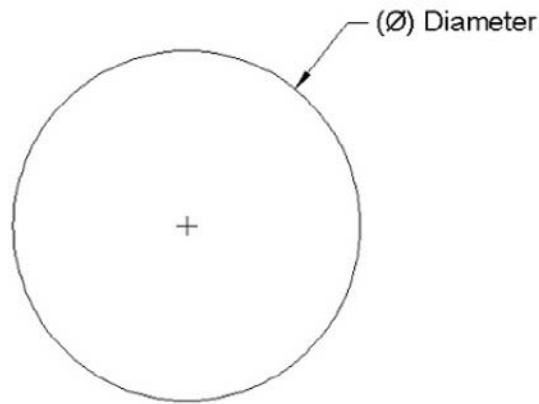

Figure 6.4 – Diameter dimension
- **Diameter Dimension** – This is a dimension that measures the diameter of a circle or an arc (Figure 6.4).
Create a small to medium size circle as seen in Figure 6.4. Then begin the diameter dimension command via any of the above methods.